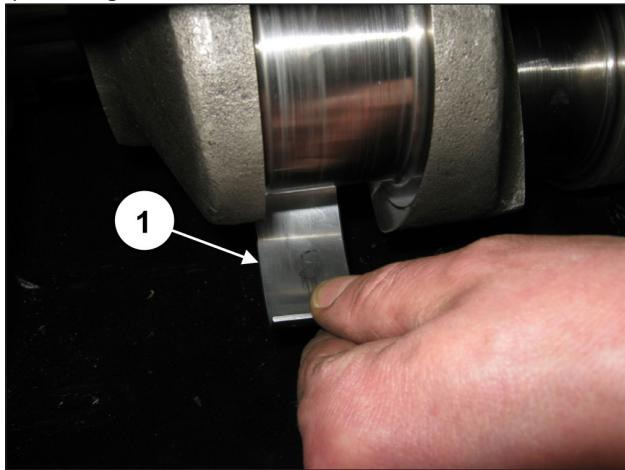

Fig. 20
Remove the three upper half-bearings of the half-conrods (pos. ①, Fig. 20).